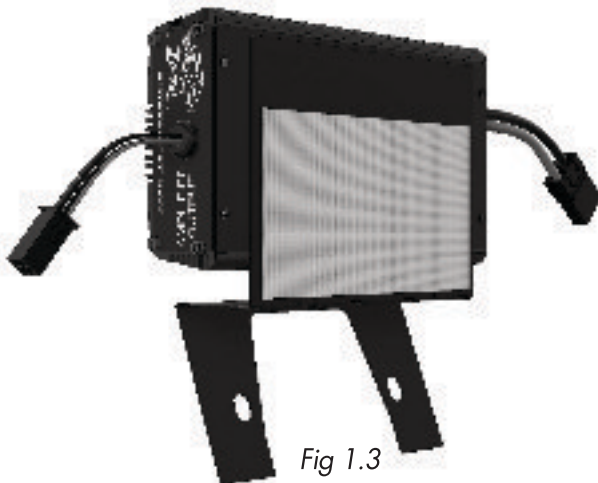

Fig 1.3
Step #5: The large latching mechanism just removed will now be installed into the Hogtunes lid using the factory screws just removed. You will need to jostle the mechanism gently to get it in place. As shown above (Fig 1.3), the 4 main screws on the mechanism are the ones to do first. Install the factory handle to the new lid using the factory screw. Next, the 2 screws will go back in on the hinge side followed by 3 screws that secure the chrome cover with reflector. Do not put in the 2 screws that hold the lock in place just yet.
Step #7: Once the cleaner is completely dry, start applying the gasket so the seam will be at the same point the factory gasket was as shown in Fig 1.3 on previous page. Don't over stretch the gasket as you're applying it along straight passes, but at the same time, don't allow it to "bunch up" in the corners or the lids will not close properly. Make sure the adhesive portion of the gasket is stuck to the bottom portion of the trough all the way around. When you have the gasket all the way around, you can expect to have some left over that can be carefully cut off using a sharp knife or scissors. The lids may be harder to close the first few times until the gasket "breaks in". Once the gasket is applied and cut to size, re install the 2 factory screws that hold the key lock in place.
Step #8: With the lid painted side up, sit the metal mesh grill into place using the tongue on the grill and the groove on the lid. Install black Phillips screw as shown in Fig 1.3 on previous page.
- Step #4: “Stick” one of the amplifiers to the BACK of the plate in the same orientation as shown in Fig 1.3.